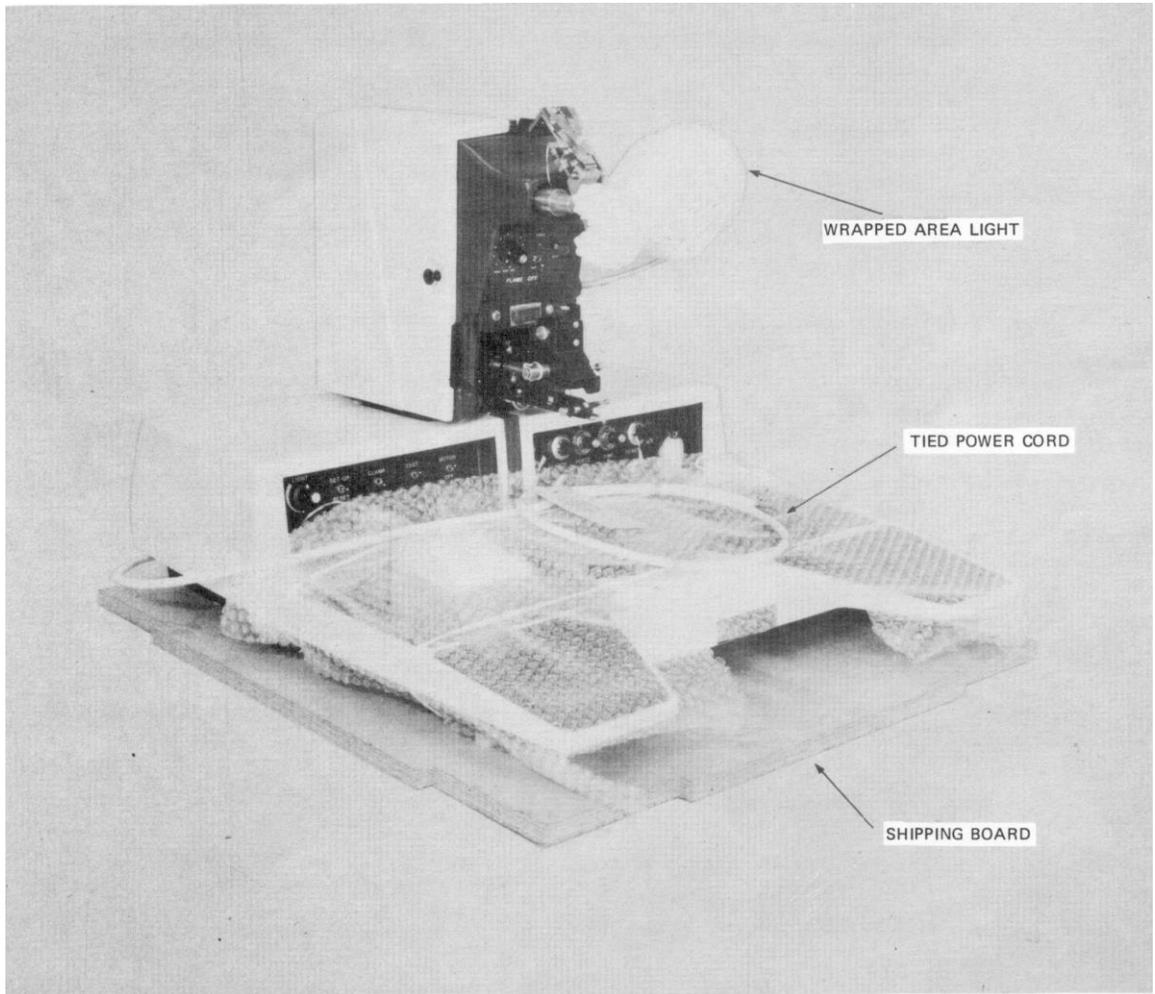

FIG. 5-2 BONDER MOUNTED ON SHIPPING BOARD
- 5.1.10 Strip off the bubble sheet from the Bonder base (Fig 5-2).
- 5.1.11 Using a flat wrench 9/16”, remove the shipping screws, spacers and board from the Bonder (Fig 5-2).